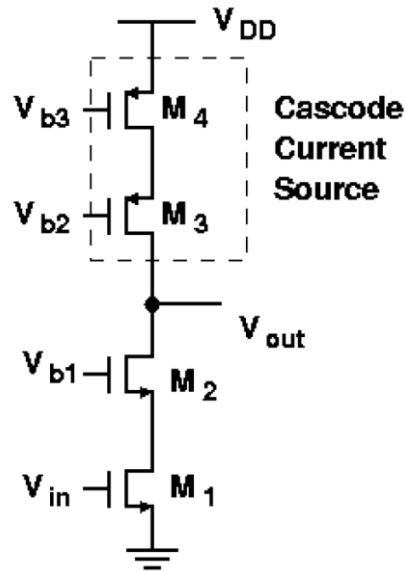
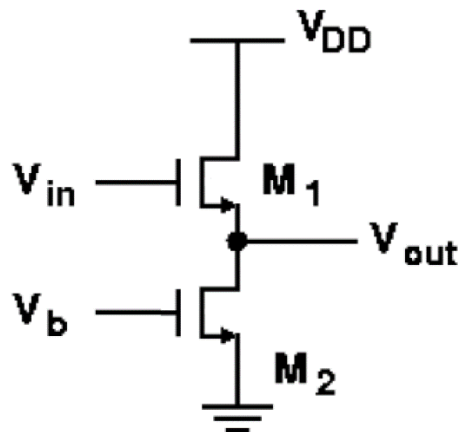

Fig. 2.
Fig. 3.
2. Design a common-source amplifier with cascaded loading as shown in Fig. 2. (30%)
3. Design a source-follower amplifier with  $V_{DD}=1.8V$  as shown in Fig. 3. (20%)
4. Assume the fabrication process is suffered from process variation, the length of input devices of Fig. 2. (M1) (Problem 2. (a)) and Fig. 3. (M1)(Problem 3. (a)) become 97% smaller. What happens to the gain of these amplifiers? Which one is more sensitive to the misalignment of MOS dimension? Why? (10%)